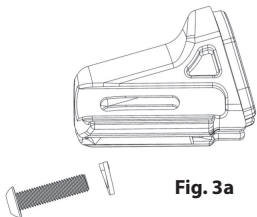

Fig. 3a
3. Insert the provided slide bolt with lock washer (*Fig. 3a*) into the top slide (*Fig 3b*).